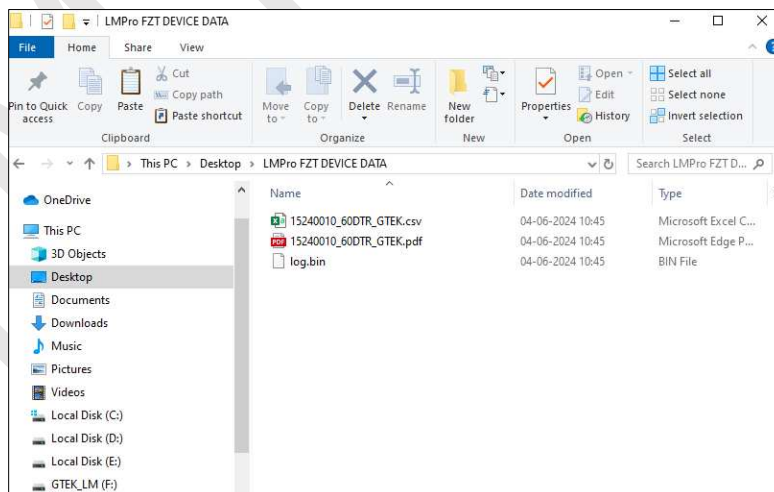

Figure 22 Save PDF/CSV report in selected file location
- Copy these files from the USB drive to the appropriate file location in the PC as shown in the figure 22.